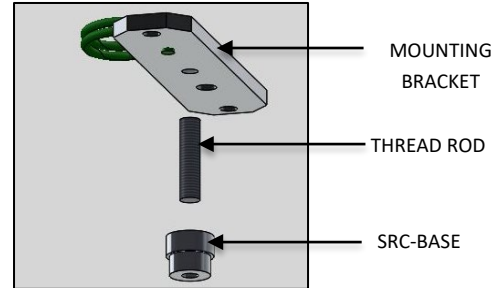

FIG. 13 – THREAD ROD INSTALLATION
10. Screw the THREAD ROD into the top of the SRC-BASE until fully seated. Then assemble the THREADED ROD/ SRC-BASE into the center hole of the MOUNTING BRACKET until SRC-BASE is fully seated against MOUNTING BRACKET as shown below in FIG. 13.